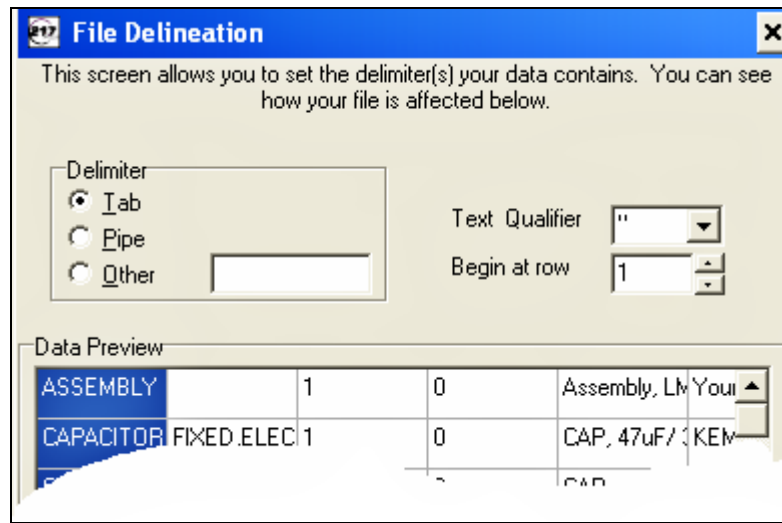

Figure 14. Selecting the Text File Data Delineation Criteria
26. The **File Delineation** box will appear, as shown in Figure 14. This allows for the setting of the **Delimiter** character used in the text file and the **Text Qualifier** character that may be used to enclose text strings. For files exported from an Excel-based workbook such as **217Plus_BOM_Tool-REV2.xls** as "Tab Delimited" text files, the **File Delineation** settings will always be the same, and will be as follows: